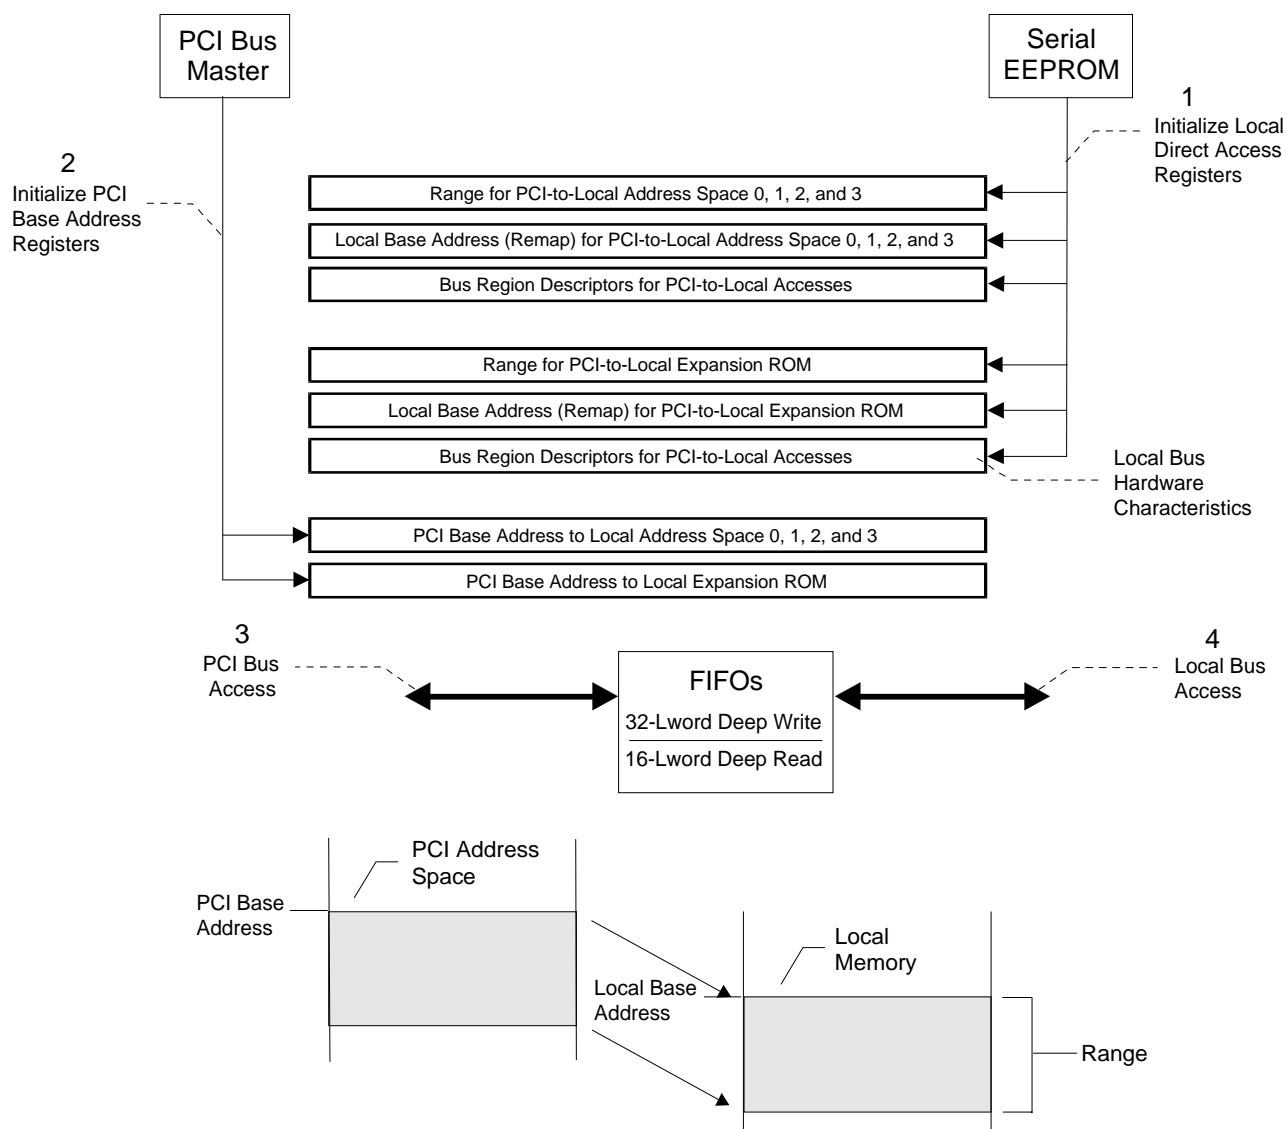

Figure 3-1. Local Bus PCI Target Access
After a PCI reset and serial EEPROM load, the software determines the amount of required address space by writing all ones (1) to a PCI Base Address register and then reading back the value. The PCI 9030 returns zeroes (0) in the Don't Care Address bits, effectively specifying the address space required, at which time the PCI software maps the Local Address space into the PCI Address space by programming the PCI Base Address register. (Refer to Figure 3-1.)